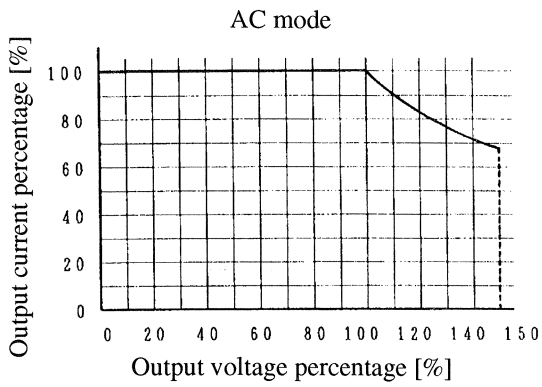

Fig. 1
When output voltage is 100 to 150 V/200 to 300 V (in AC mode) or 100 to 212 V/200 to 424 V (in DC mode), the output current is reduced by the output voltage. Figs. 1 and 2
- The output current percentage in Fig. 1 and Fig. 3 takes priority the smaller of the two Figs. (This applies only in the AC mode.)